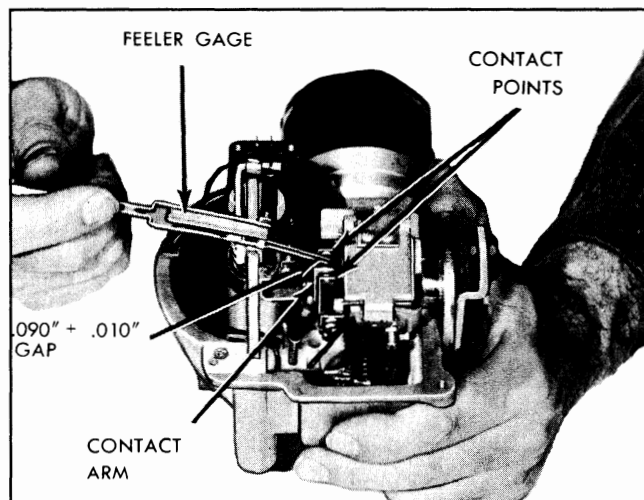

Fig. 12-44 Contact Point Adjustment (Full Gap)
2. Move contact arm against either contact point and use a feeler gauge to measure the full gap between contact arm and other point (Fig. 12-44). This gap must be $.090'' \pm .010''$. If gap is not within specifications, bend either contact point on magnet assembly until proper gap is obtained.